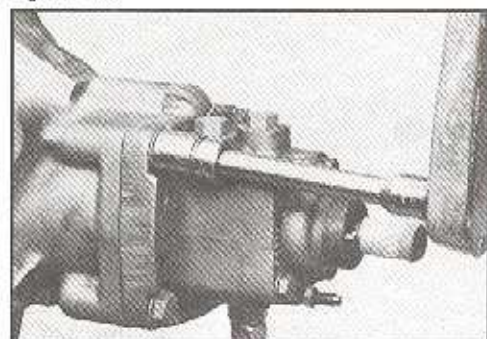

Figure 154
45. Assemble four bolts (20A) with washers (20B) through adaptor (20) into housing (47). Torque bolts to 70-80 ft. lbs. (95-108 N m) if dry or 47-57 ft. lbs. (64-77 N m) if lubricated. A 3/4 inch socket required. SEE FIGURE 154.